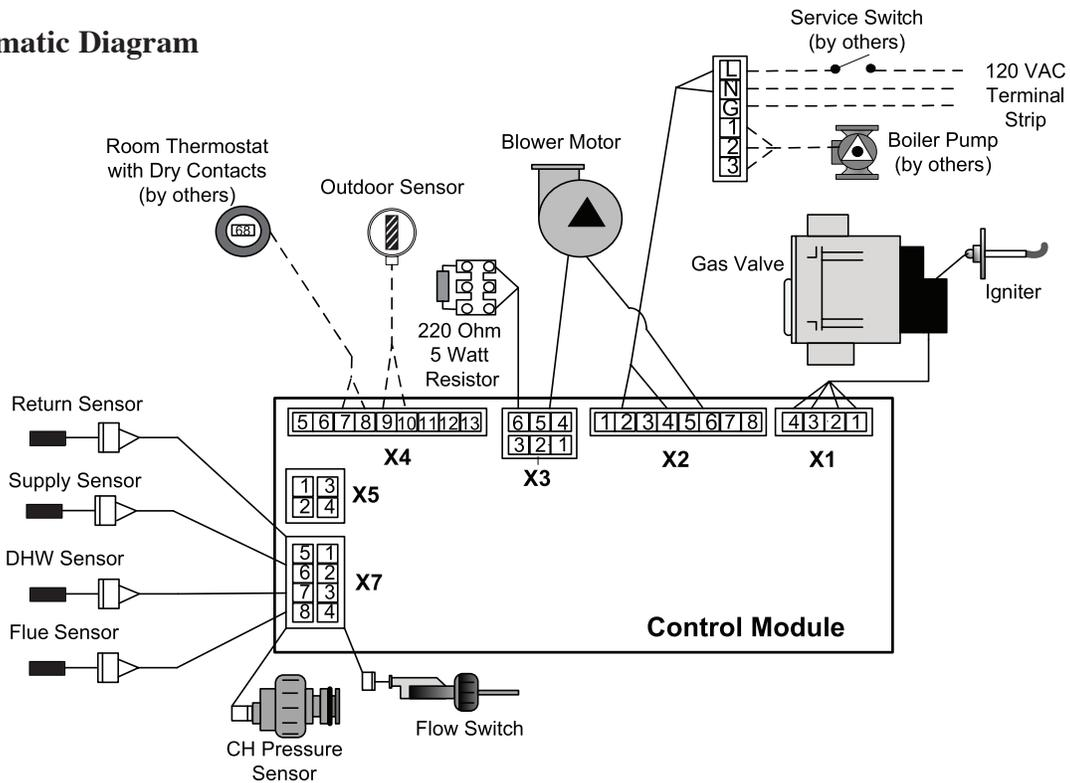
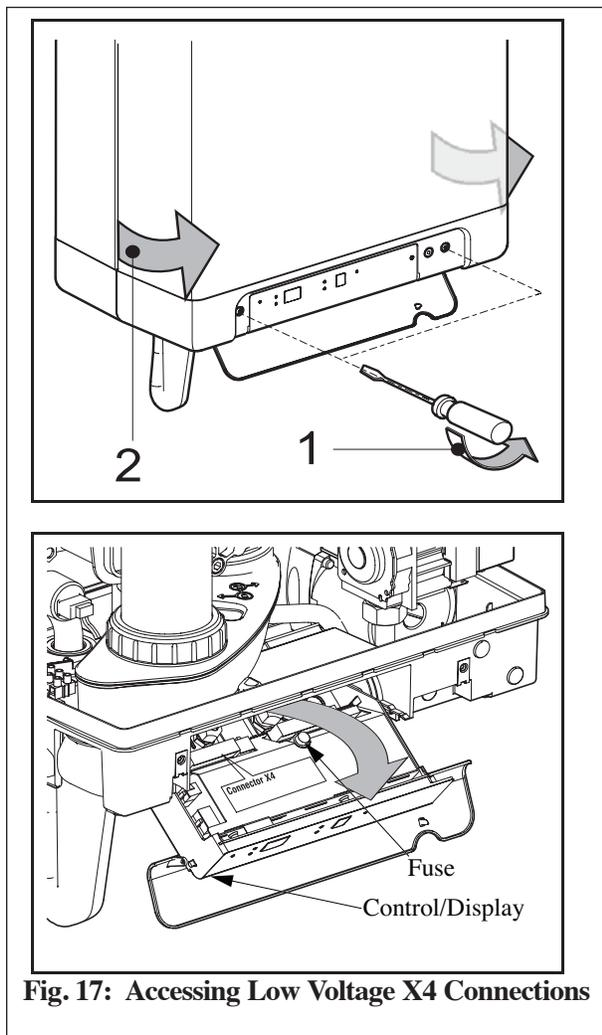

Fig. 16: CHALLENGER Factory Wiring Diagrams
Fig. 17: Accessing Low Voltage X4 Connections
1. Connect a 120 VAC/15A service to the 120V terminals L, N and G inside the **CHALLENGER** as shown in Fig. 16, page 34.
1. Connect room thermostat or the end switch (isolated contact only) to the 24V terminal strip on the swing out control panel, as shown in Fig. 16, page 34 and Fig. 17.
1. Connect the CH primary circulator to the CHALLENGER 120 V terminals 1,2 and 3 located inside the appliance as shown in Fig. 16, page 34.